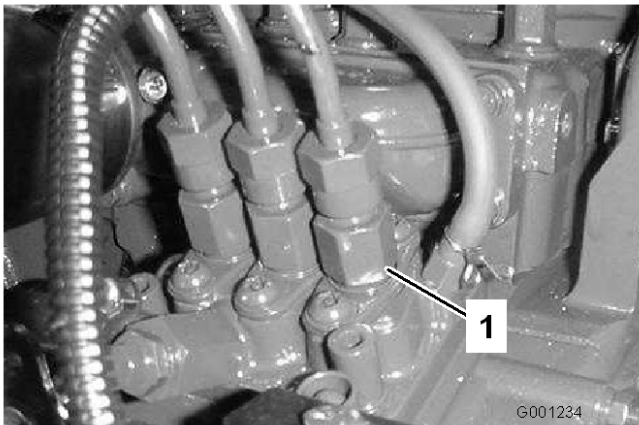

Figure 50
1. Loosen the pipe connection to the No. 1 injector nozzle and holder assembly at the injection pump (Figure 50).